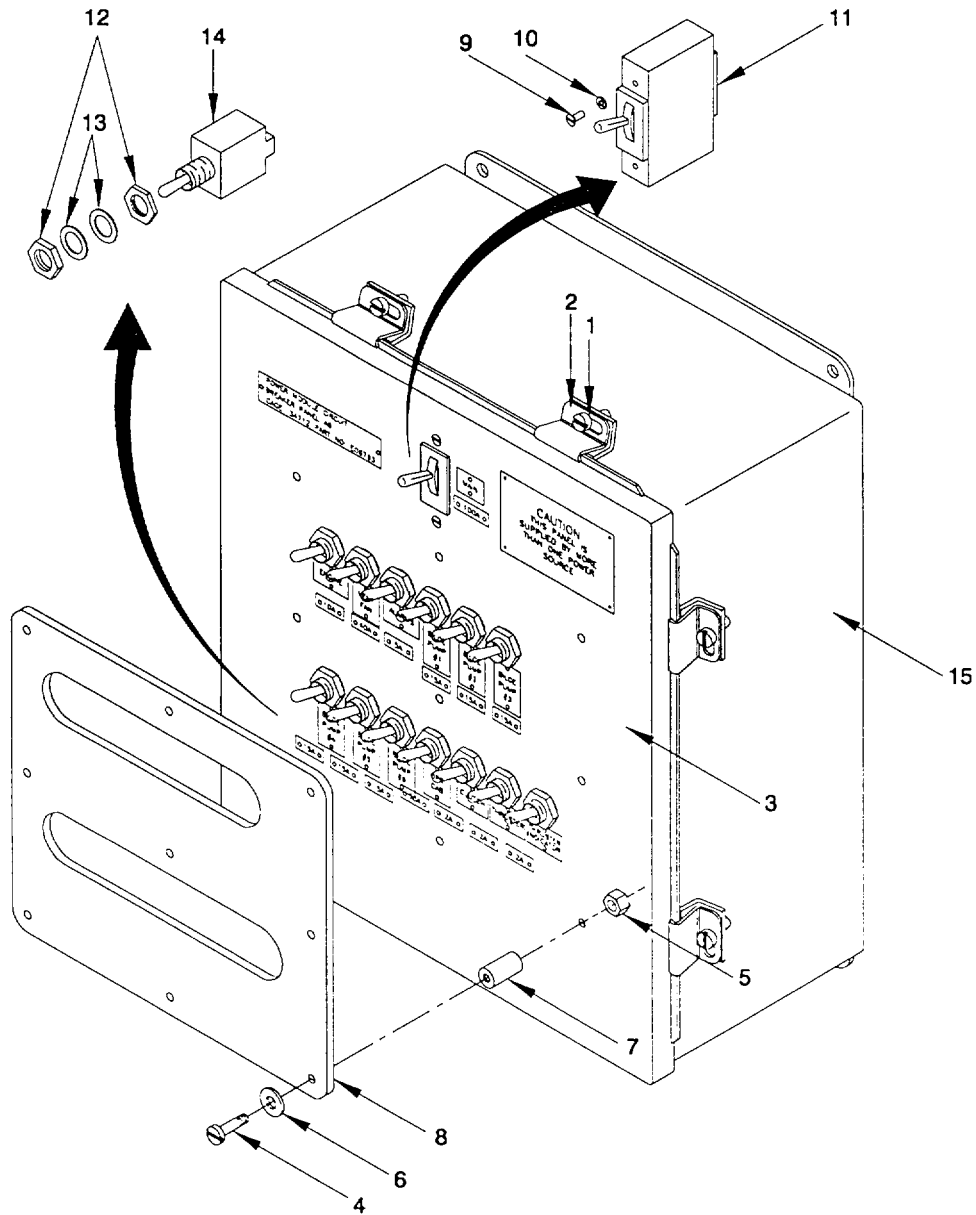

Figure 2-63. Circuit Breaker, Propulsion Module Circuit Breaker Panel 'A6", Remove/Install
a. *Remove.* (figure 2-63)
- (1) Remove six screws (1) and six clamps (2) securing cover (3) to enclosure (10). Swing cover (3) open.
- (2) Disconnect and tag electrical wiring to circuit breakers (11 and 14). Refer to Appendix G.
- (3) Remove nine pan head screws (4), nine self locking hex nuts (5), nine flat washers (6) and remove guard (8) and nine standoffs (7).
- (4) Remove two pan head screws (9) and two lock washers (10) securing circuit breaker (11) to cover (3). Remove circuit breaker (11).
- (5) Remove two nuts (12) and two washers (13) securing circuit breaker (14) to cover (3). Remove circuit breaker (14).
b. *Install.* (figure 2-63)
- (1) Apply sealing compound to screws (1, 4 and 9) and nuts (12).
- (2) Install new circuit breaker (14) in cover (3) and secure with two washers (13) and two nuts (12).
- (3) Install new circuit breaker (11) in cover (3) and secure with two lock washers (10) and two pan head screws (9).
- (4) Position nine standoffs (7) and guard (8) on cover (3). Secure with nine pan head screws (4), nine flat washers (6) and nine self locking hex nuts (5).